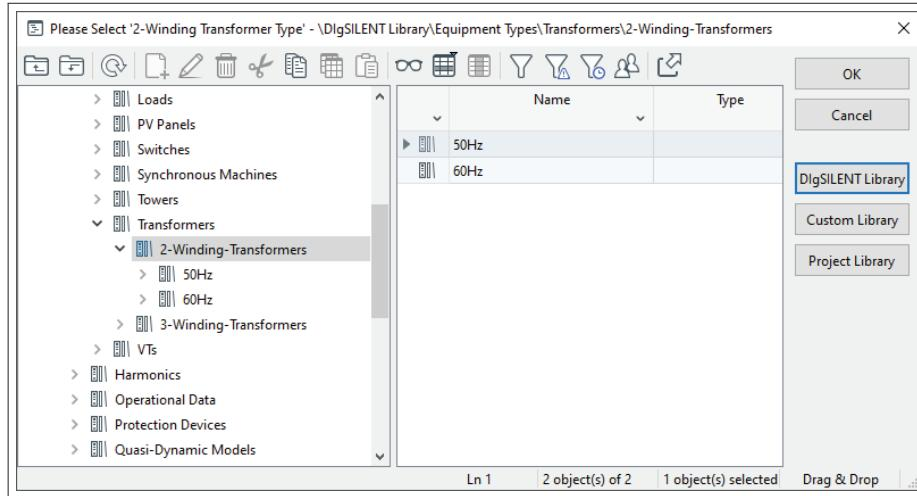

Figure 14.2.2: Libraries buttons shown when assigning a type
1. *Select Type*: the *Data Manager* pointing to the *DlgSILENT* global library, shown in Figure 14.2.2, is launched. The **Project Library** button can be used to quickly switch between the global and local libraries.